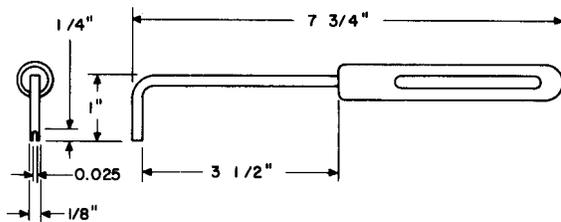

Fig. 10—256 Adjuster Tool
2.10 **256:** The 256 tool (Fig. 10) is a spring adjuster used to adjust the top row of sequence switch springs and multiple brush springs in panel type dial equipment.